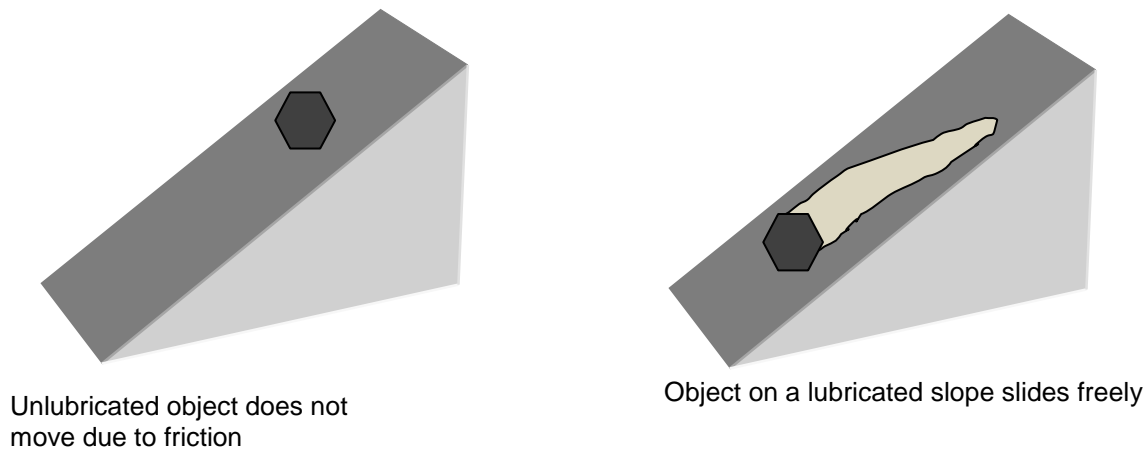

FIGURE 1: Effect of Lubrication on Friction
- ◆ the use of a lubricant which flows between parts to create a fluid surface that creates less friction than solid surfaces (see Figure 1),